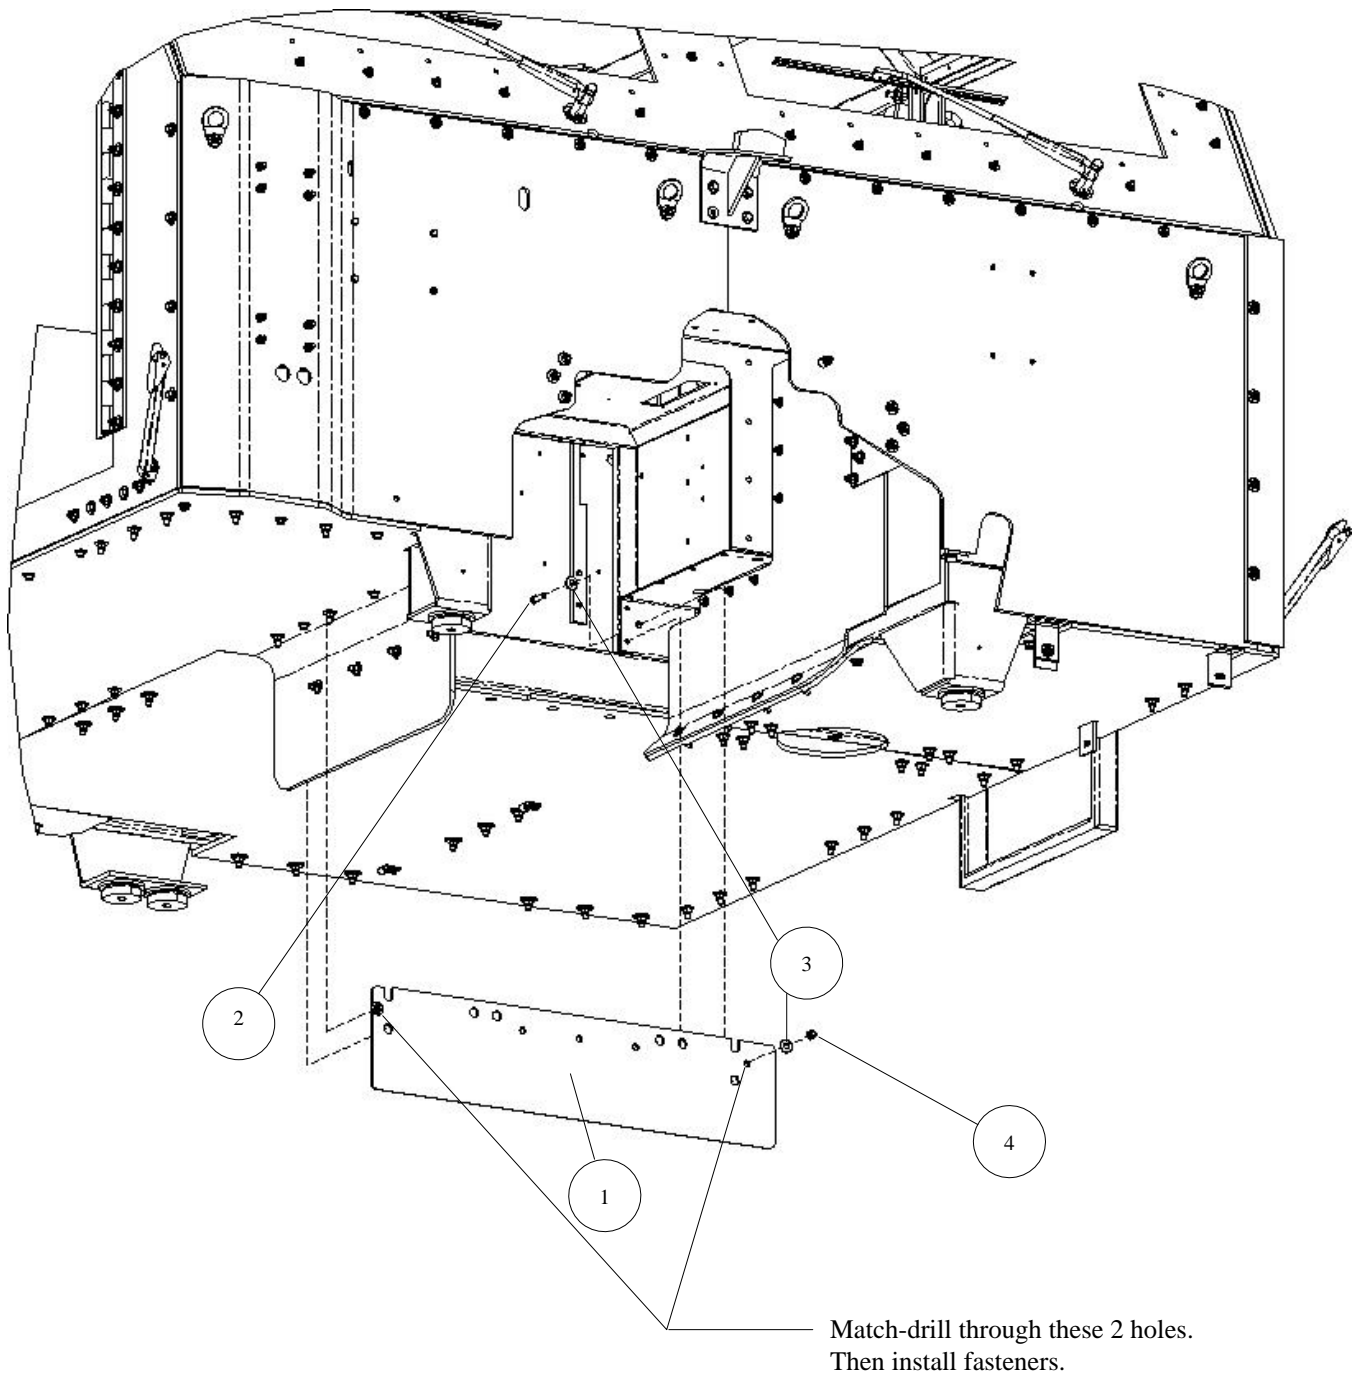

Figure 3-71. Match-Drill for Doghouse Lower Panel.
3. Match-drill for doghouse lower panel as follows (see Figure 3-71):
- a. Position the doghouse lower panel (1) inside the doghouse, aligning the clearance holes and slots with the four upset nuts on the vertical wall of the step.